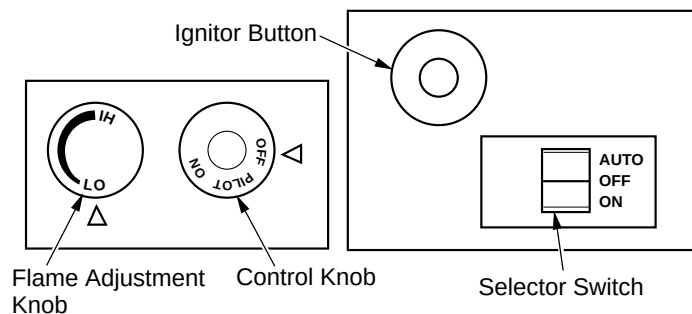

Figure 32 - Control Knob and Ignitor Button Location (Shown as Supplied, No Control Options)
5. Wait five (5) minutes to clear out any gas. Then smell for gas, including near the floor. If you smell gas, STOP! Follow "B" in the safety information in column 2, page 15. If you don't smell gas, go to the next step.
6. Press in and turn control knob counterclockwise  to the PILOT position. Press in control knob for five (5) seconds (see Figure 32).